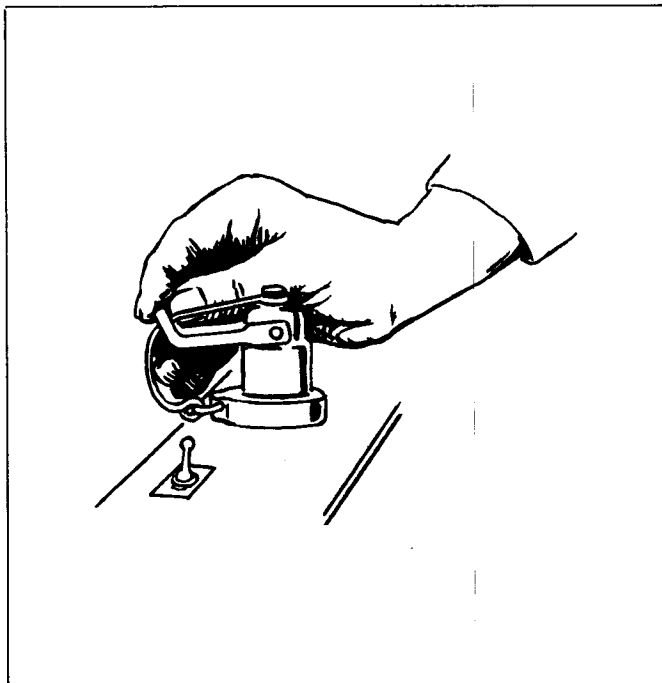

Figure 7. Receptacle Handle in Puncture Position
- h. After engine has made several revolutions, swing the handle of the receptacle as far as it will go in the direction opposite its withdrawn position. Refer to Figure 7.